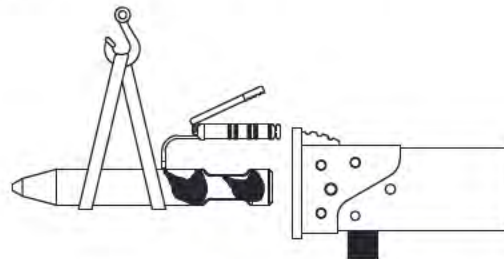

Fig. 7-5 Apply Grease Directly On Tool
- With tool out, grease areas of tool as shown in Fig. 7-5. Re-Install tool.